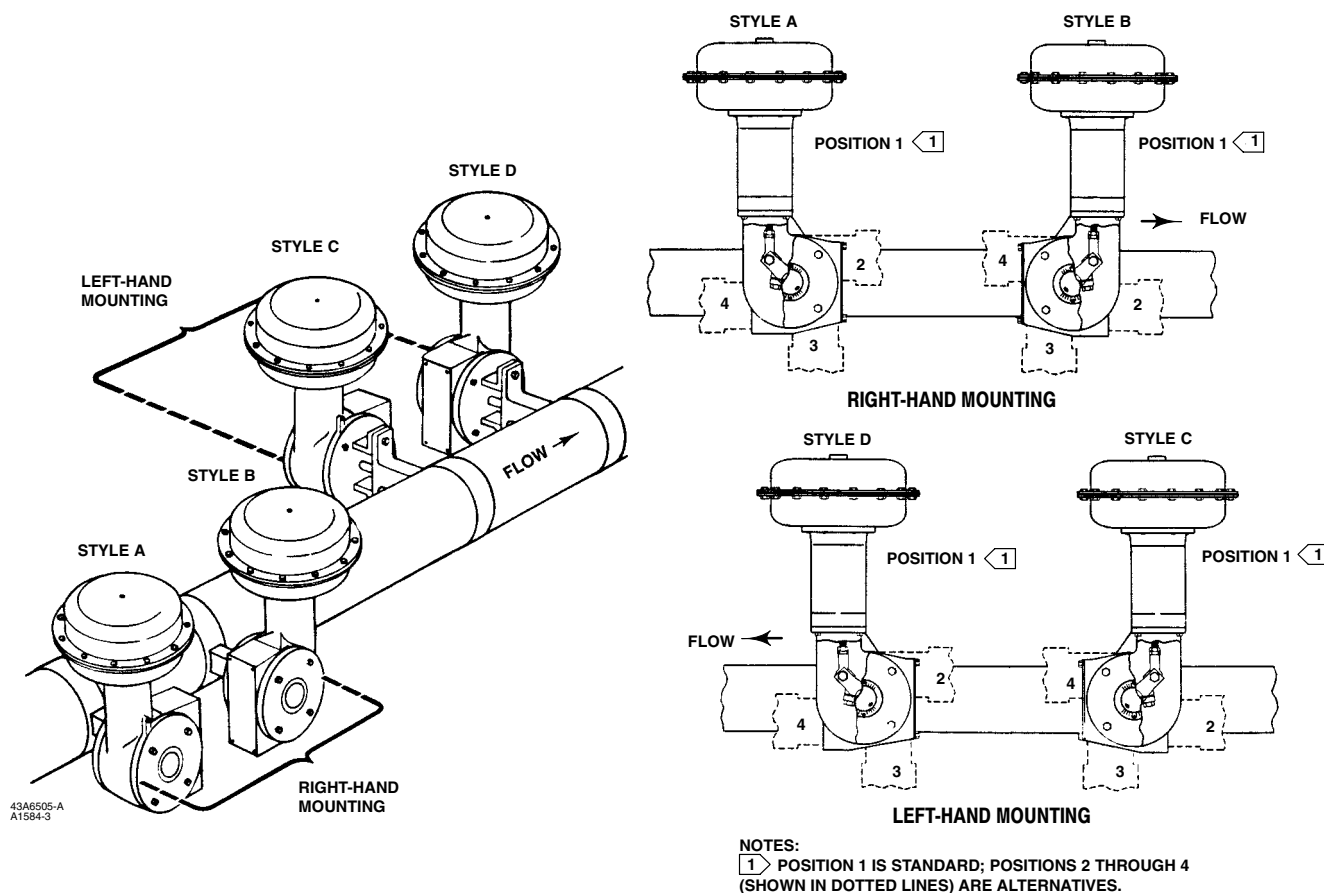

Figure 3. Mounting Styles and Positions for the Type 1051 and 1052 Actuator
See figure 3.
1. Unscrew cap screws and washers (keys 34 and 63), and remove the cover (key 33).
2. Refer to figure 3 for available mounting styles and positions. When mounting on a Vee-Ball Design V150, V200 or V300 valve, check the valve manual to determine if it is Series B. The actuator is normally positioned vertically with the valve in a horizontal pipeline (see figure 3).
Valve construction can change the flow direction for a control valve assembly. It is important to observe the flow direction in all valve applications **before** installing the valve in the pipeline (see figure 3). Refer to the appropriate valve bulletin or instruction manual.